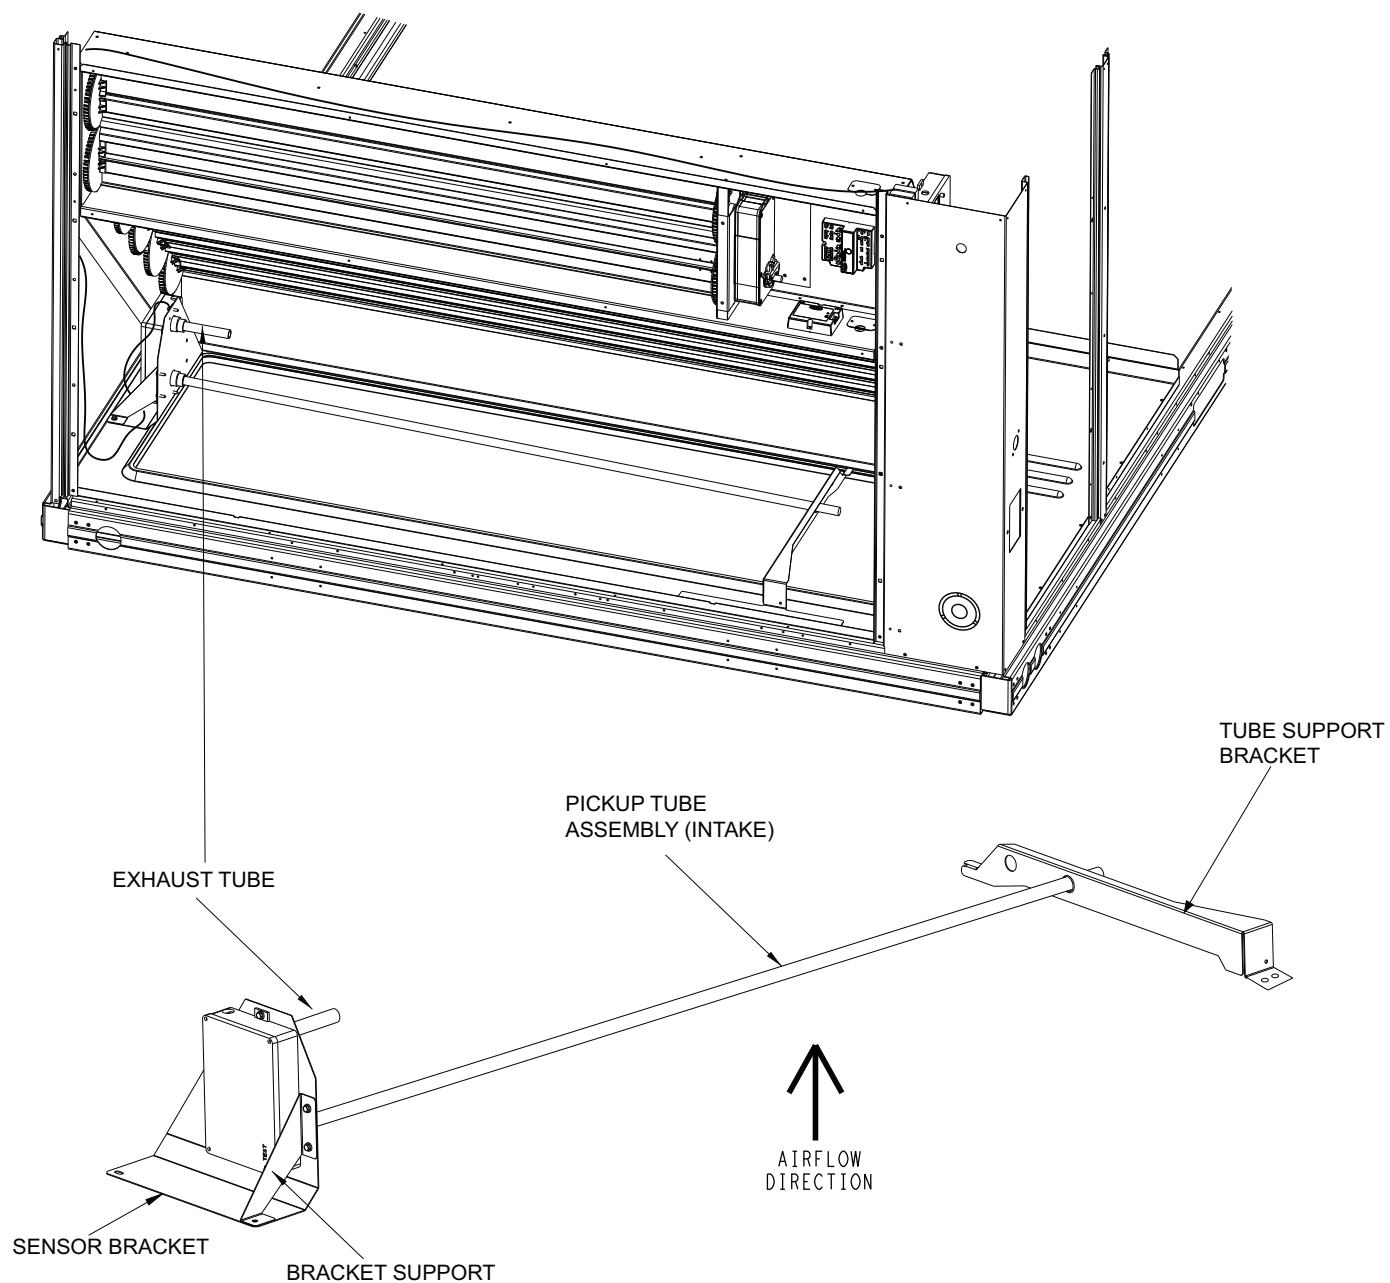
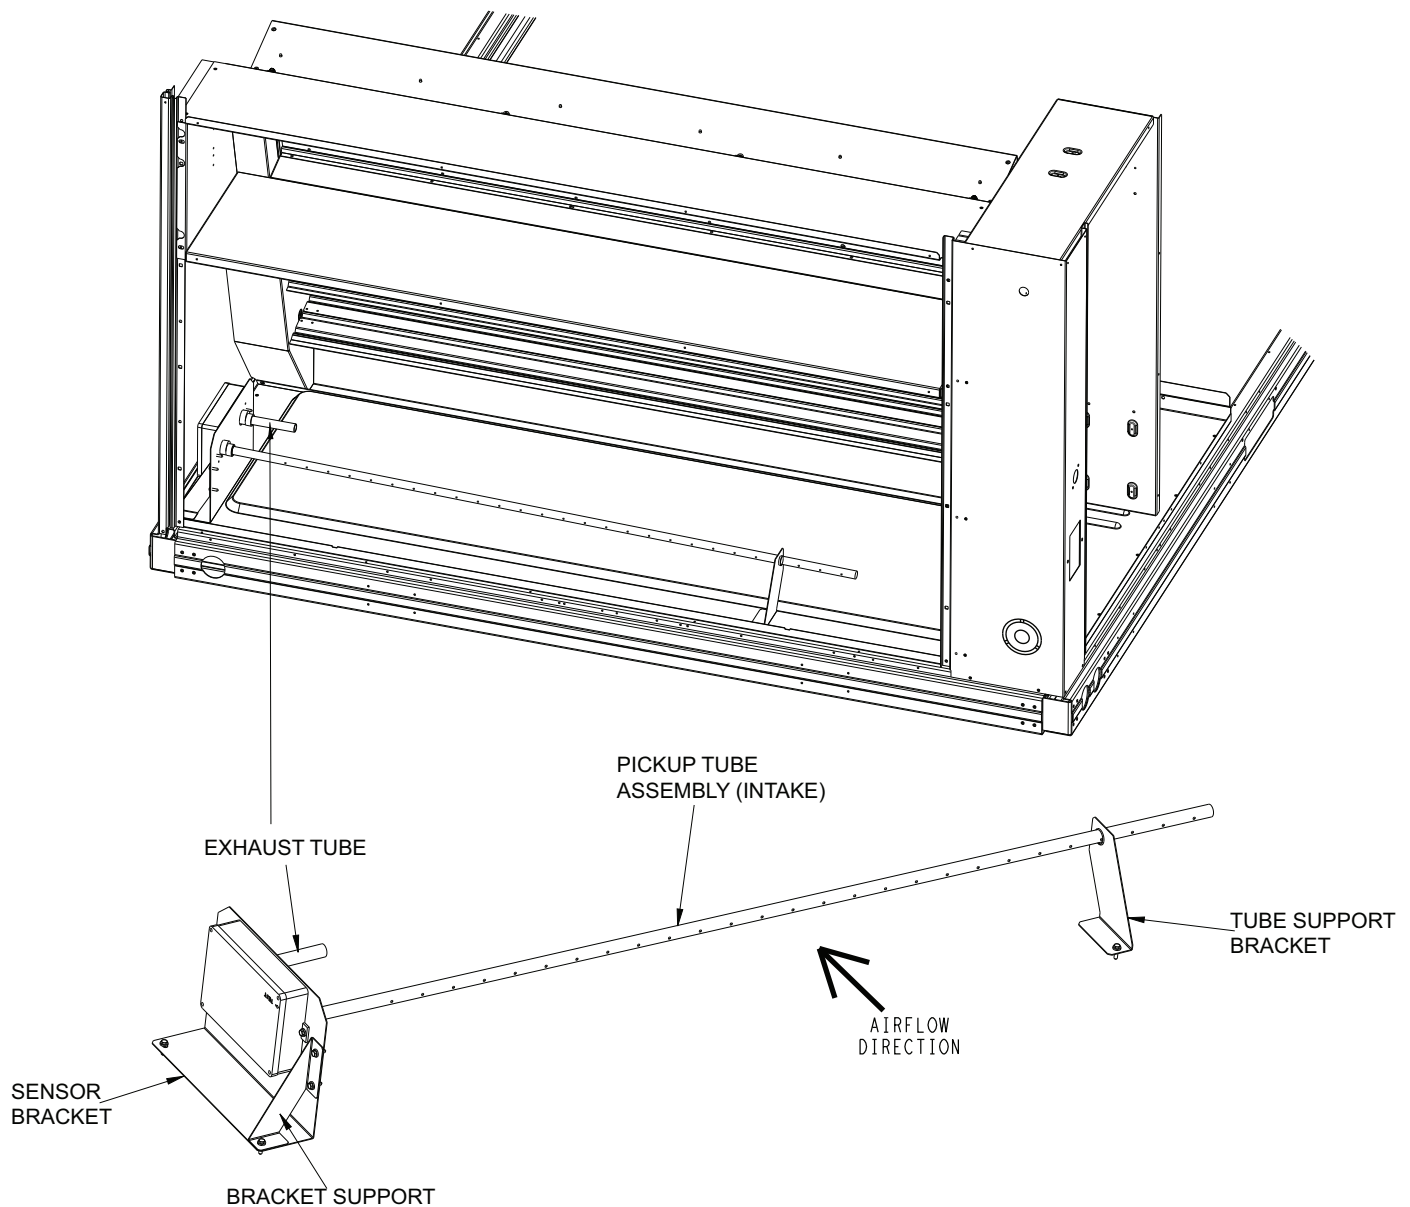

Fig. 11 — Vertical Return Sensor Assembly and Location
Fig. 12 — Horizontal Return Sensor Assembly and Location
4. Set the pick up tube aside for later use. Using two #8 screws, install the smoke sensor to either the vertical or horizontal bracket, depending on the return duct configuration. Install the corresponding bracket support. See (Fig. 11) for locating the bracket with smoke sensor into the return section for vertical configuration and (Fig. 12) for horizontal configuration.
5. Once the brackets are installed, the pickup tube can now be slid into the support bracket. Before snapping the pickup tube fitting end into the smoke sensor, align the pickup tube's sensing holes so that they face the direction of airflow. This is shown in Fig. 11 and 12. If the unit is a vertical return, orient the holes toward the vertical opening. If the unit is horizontal return, orient the holes away from evaporator coil.